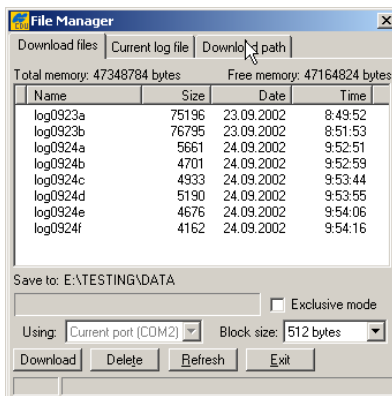

Figure 5-10. Find Files to Download
4. Click **File ► File Manager**, and then the **Download path** tab on the **File Manager** dialog box (Figure 5-10).